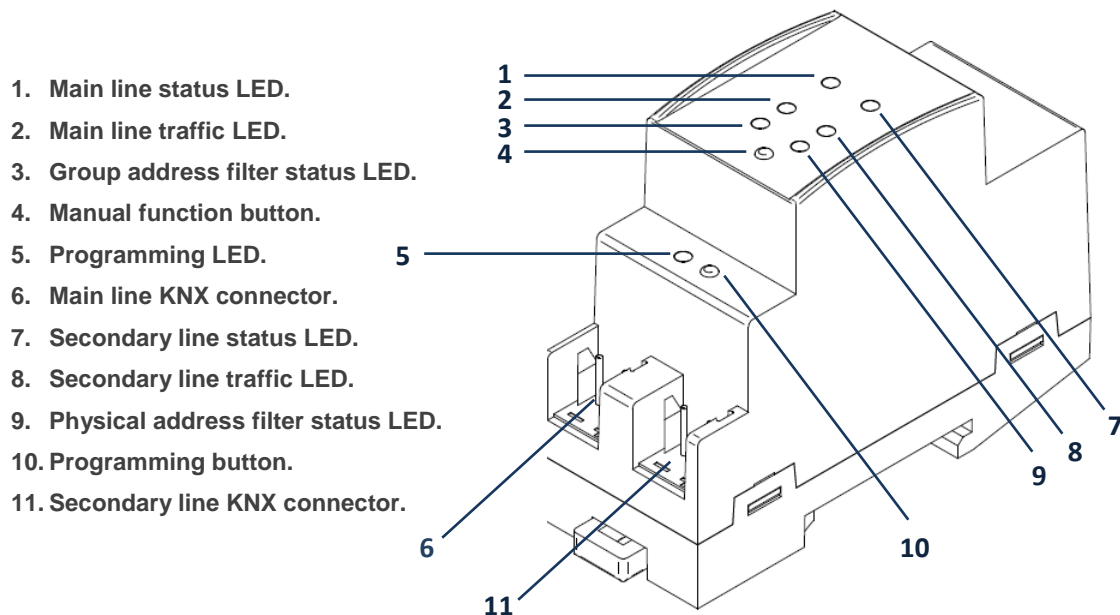

Figure 2 Element Diagram
As shown in Figure 2 each of the two KNX lines to be coupled must be connected to one of the two KNX bus connectors available (6, 11). After the connection, the line coupler can be conveniently mounted on the DIN rail by the usual procedure.
The programming button (10) shown in Figure 2 may be pressed to set Linecoupler CL in **programming mode**. After a short press, the programming LED will light in red.
Linecoupler CL features an additional pushbutton on the top cover, next to the status LEDs (see (4) in Figure 2), which permits: